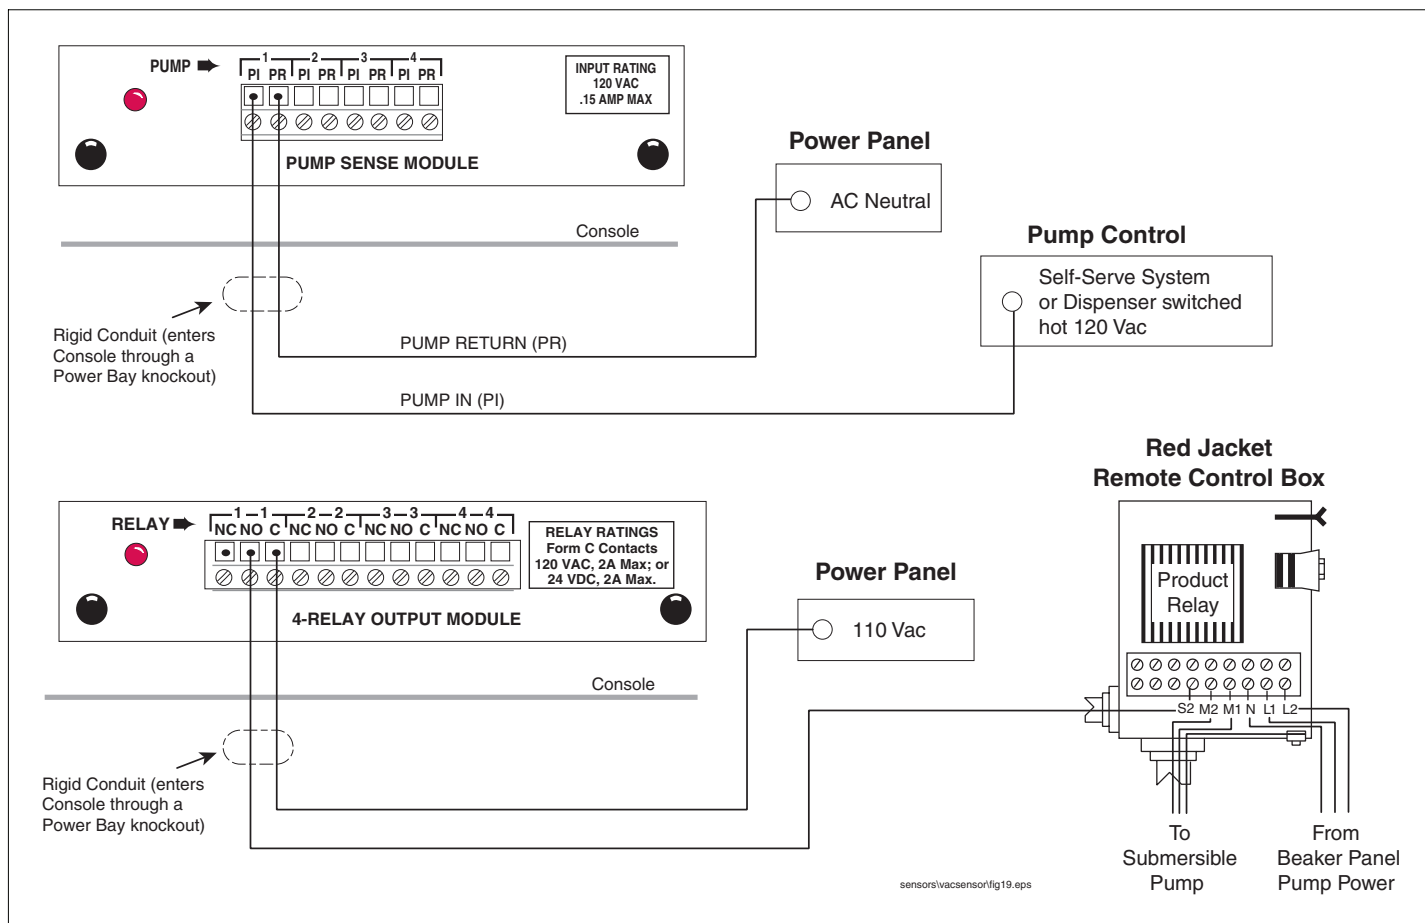
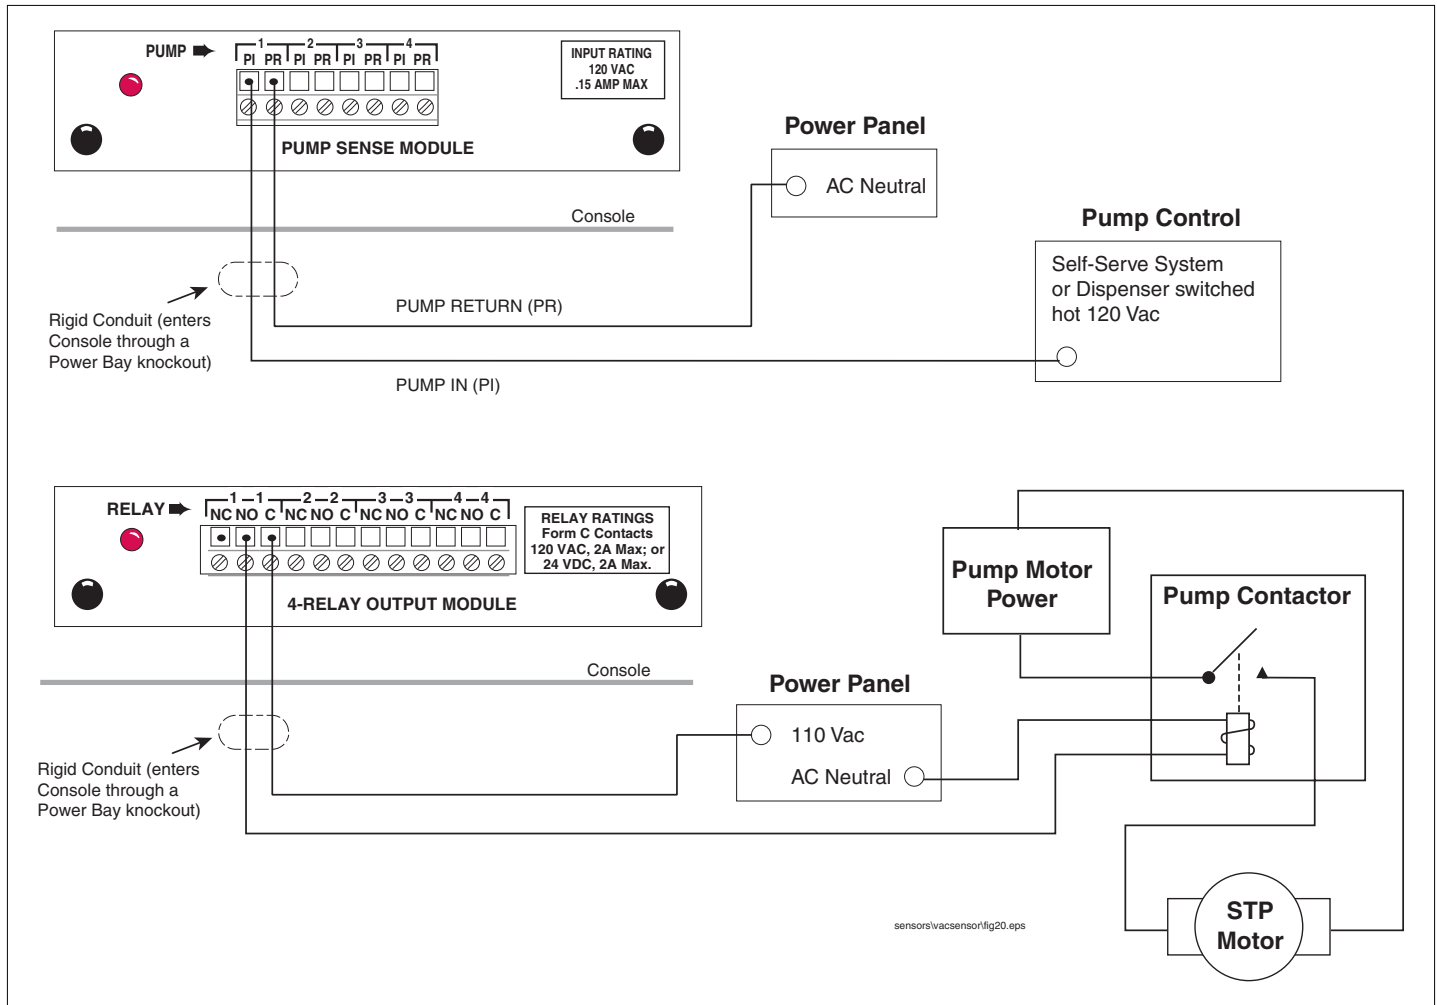

Figure 10. Connecting Pump Sense & 4-Relay Modules - Red Jacket Pumps
Figure 11. Connecting Pump Sense & 4-Relay Modules - Non-Red Jacket Pumps
- For module connections with Red Jacket pumps see Figure 10. For module connections with non-Red Jacket pumps see Figure 11.